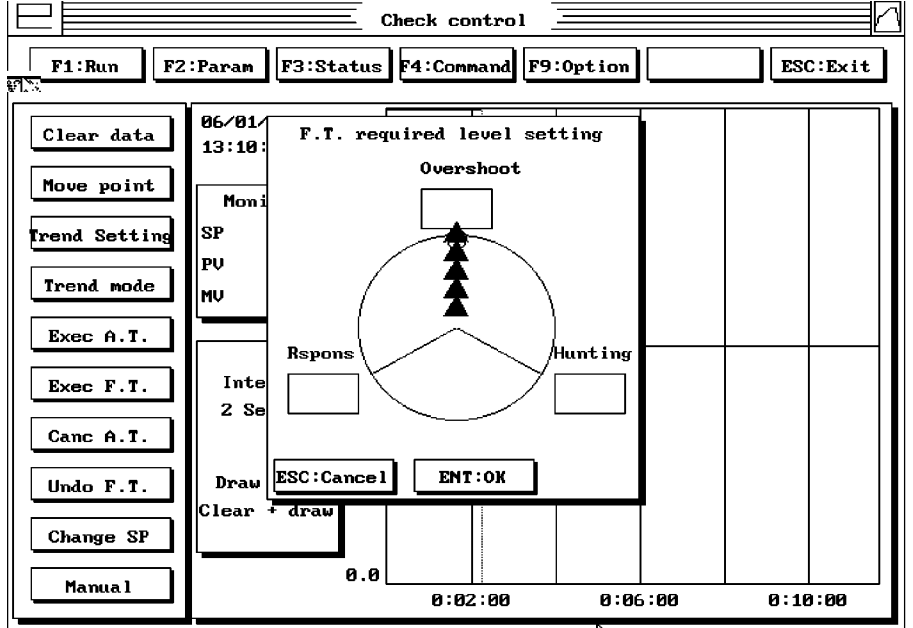

Figure 33
4. Enter the appropriate PID set number and select **ENT: OK**. A new pop-up window will appear Figure 33.